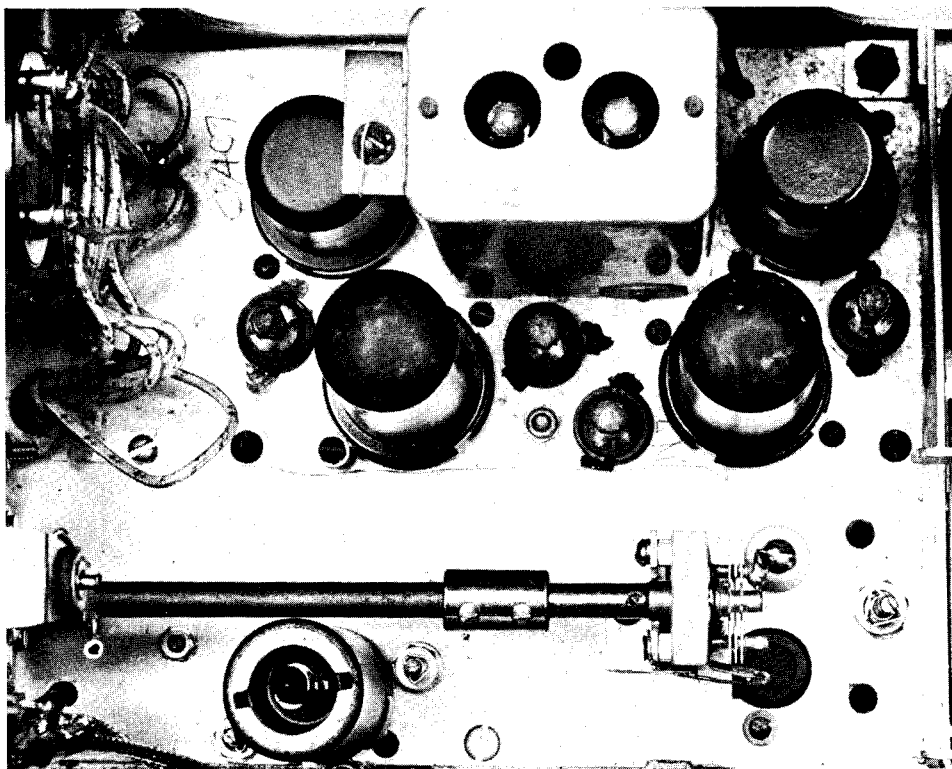

Figure 63
- C—Revised receiver oscillator circuit. The 10 $\mu\text{fd.}$ capacitor is tuned from the front panel, as shown in figures 63 and 59.
in figure 59. A soft aluminum plate is placed over the opening left by the removal of the auxiliary tuning unit, and a National type MCN dial is mounted on the panel. The shaft of the dial is about 4" from the top edge of the panel, and about 4 1/2" from the left edge of the panel. The dial drives a small 10 μ fd. "APC-type" variable air capacitor that is mounted on an aluminum bracket placed about 4 1/2" behind the front panel (figure 63). The capacitor, therefore, is immediately adjacent to the ceramic feed-thru insulator